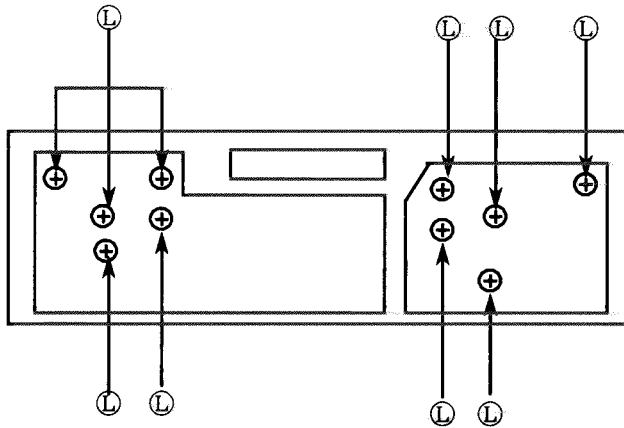

Fig 9 Front PCB view
2. Release the shaft to remove the pickup (Fig 9).